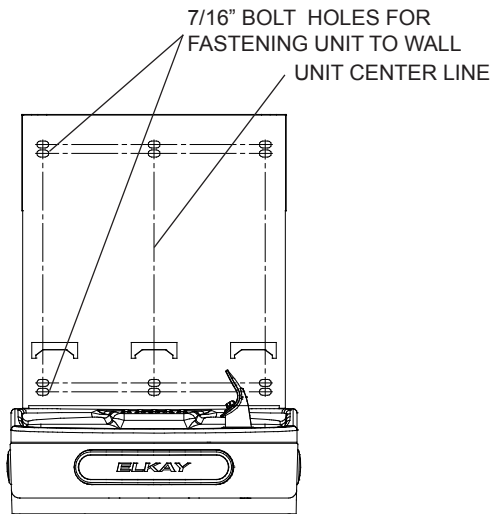

Fig. 4
- 2) Remove wall mounting plate from Bottle Filler. Place wall plate against wall on top of basin. Center the wall plate side to side with the basin. Mark the six (6) mounting holes with a pencil (See Fig. 4).
- 4) Install wall mounting plate to wall using six (6) 7/16" oround mounting holes (mounting bolts not included) (See Fig. 4). Use appropriate fasteners for your wall type.